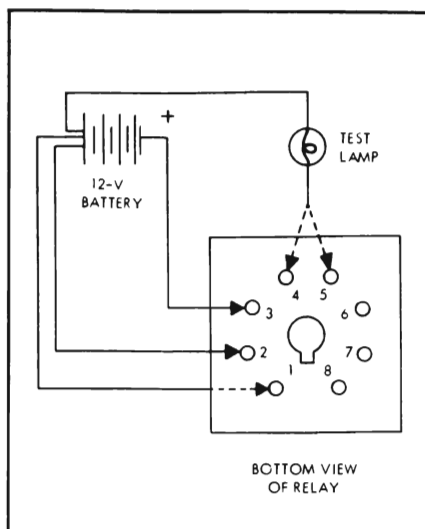

Figure 11-191—Relay Pull-In Check
(1) Connect pins 1 and 2 to the negative terminal of a 12 volt battery. See Figure 11-191.
(2) Connect pin 3 to the positive terminal of the battery.
(3) Connect a 12 volt test lamp such as a #57 lamp between the negative terminal of the battery and the relay, alternating the connection between pin 4 and 5.
(4) During either of the above connections, the lamp must not light. If lamp lights, a defective relay is indicated and must be replaced.
(5) Disconnect connection to pin 1 and again alternate the test lamp lead between pin 4 and 5.
(6) During either of the above connections the lamp should light.